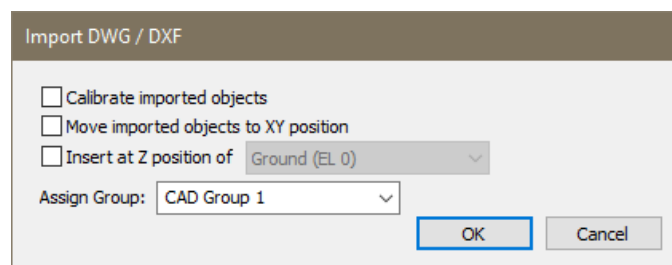

Figure 4-2
- Click on the **Open** button, this will open up the *Import DWG/DXF* window shown in **FIGURE 4-2**.